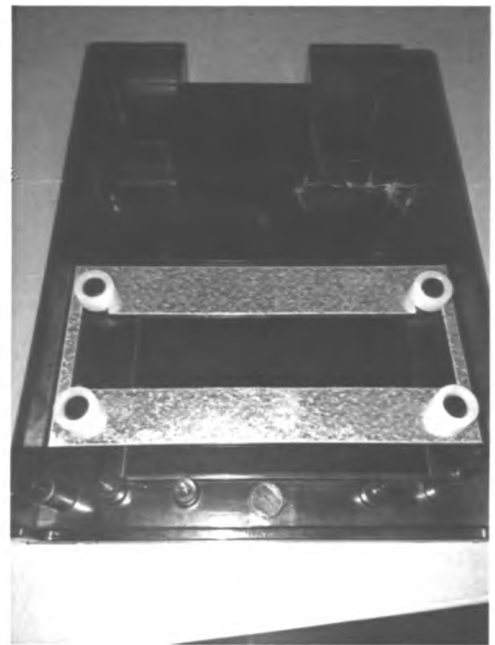

Figure 6
11. Install the lens, bracket and spacers on the new panel as shown.(Fig. 6)